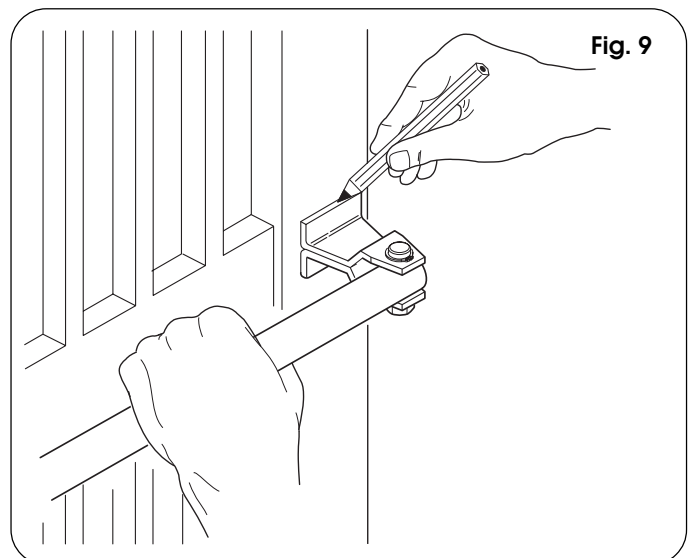

Fig. 9
- 7) Close the gate leaf and, keeping the operator perfectly horizontal, find the position of the front attachment (Fig. 9) on the leaf.